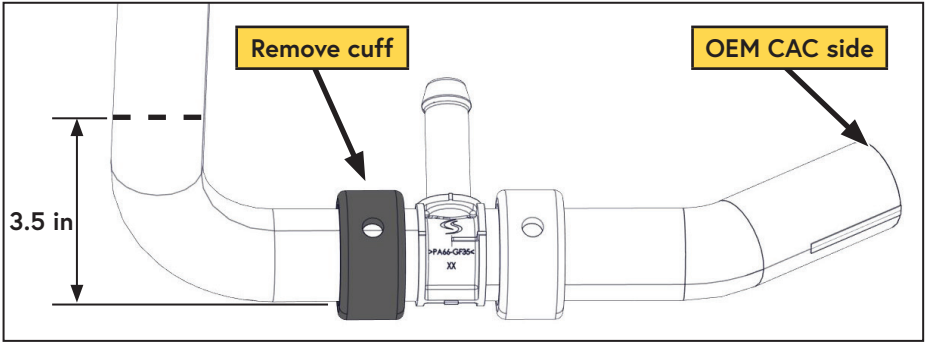

Figure 91 — Secondary cooling hose modification
- ☐ Measure and mark 3.5 in from the outside radius of the secondary cooling hose and cut the hose (Figure 91).